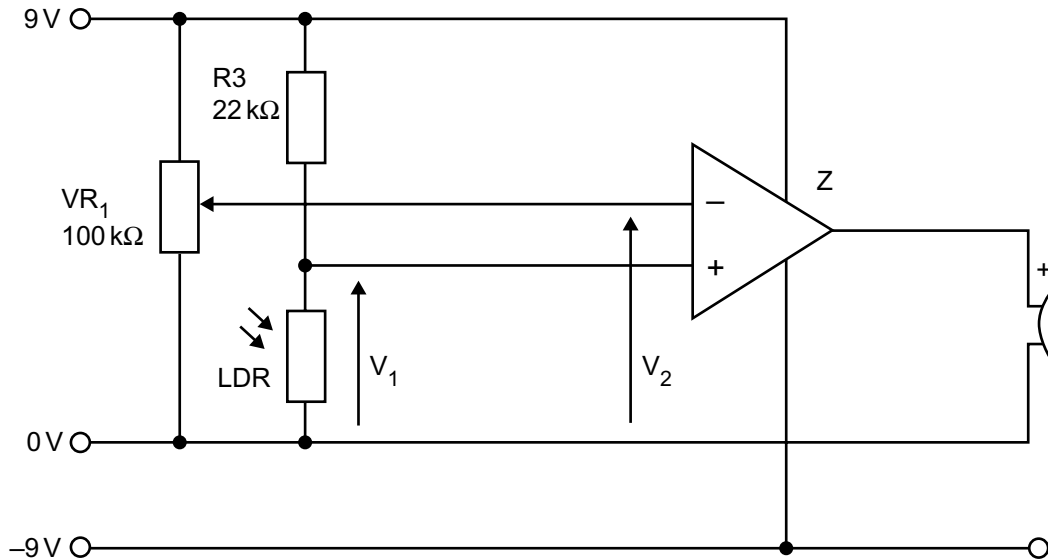

Fig. 10(a)
10 (a) Fig. 10(a) shows part of a light sensing circuit.
- (i) Calculate the voltage V_2 when the variable resistor VR_1 on Fig. 10(a) is adjusted to its mid position. [2]
- (ii) Explain the function of component Z in the circuit shown in Fig. 10(a). [3]